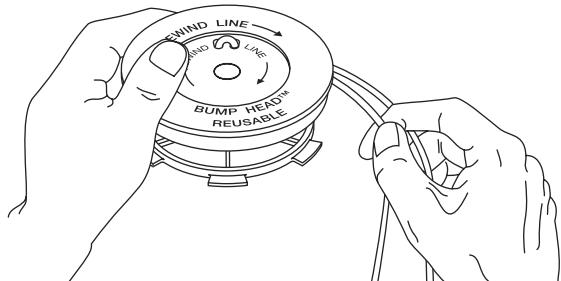

Fig. 19
7. Wind the lines in tight even layers, onto the reel (Fig. 19). Wind the line in the direction indicated on the inner reel. Place your index finger between the two lines to stop the lines from overlapping. Do not overlap the ends of the line. Proceed to step 11.